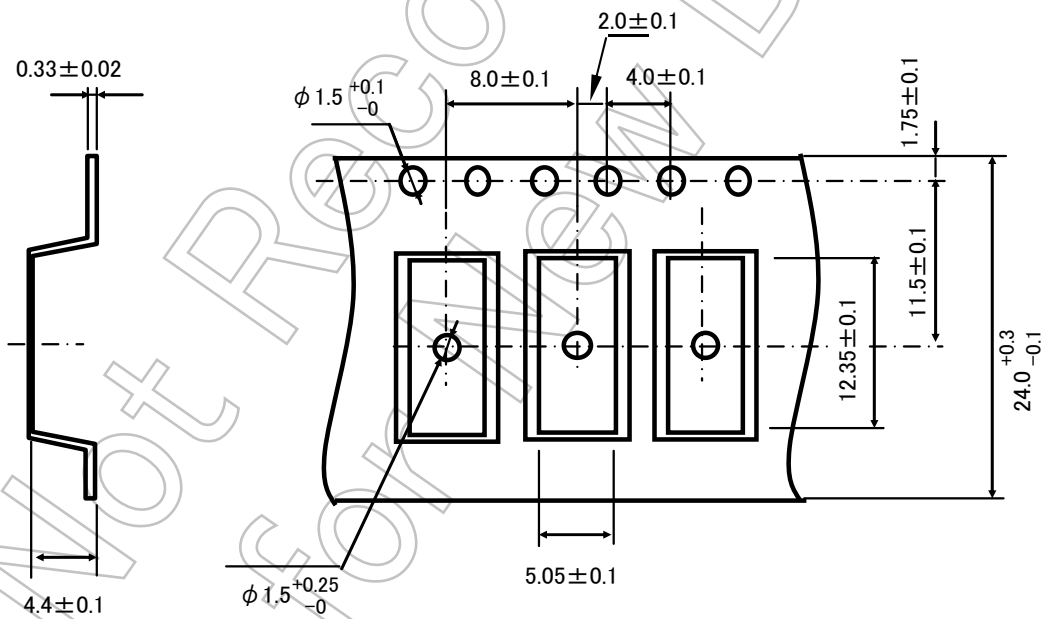

Figure 3 Tape Forms
- (1)Tape material: Plastic
- (2)Dimensions: The tape dimensions are as shown in Figure 3.